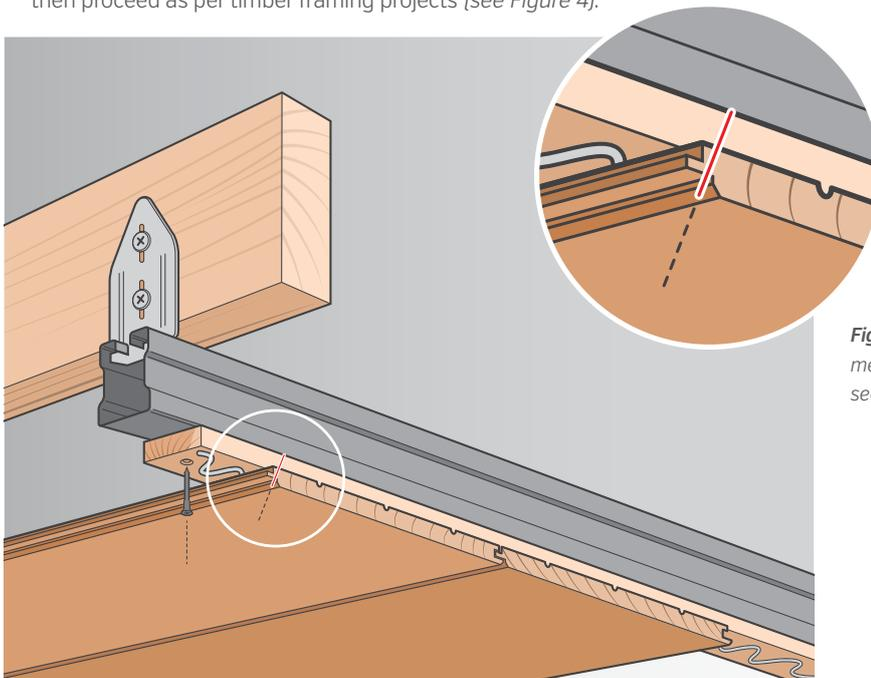

Figure 4: Panelling installation using metal track system / timber batten / secret nail and glue.
- For panelling that cannot use face fixing screws, it is necessary to securely scw a timber batten to the bottom of a metal track, then proceed as per timber framing projects [see Figure 4].